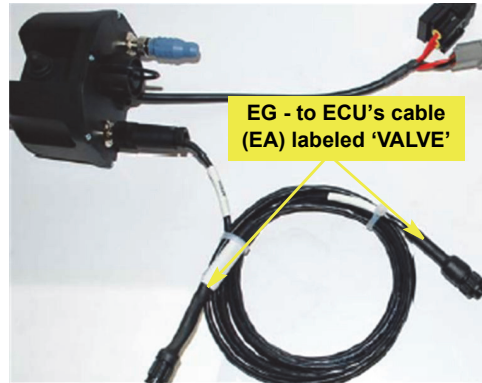

Figure 7e: CAN cable to eDXD and terminal/receiver
f. Route CAN cable **EG** to the ECU (eDXD) in the cab (Figure 7e).